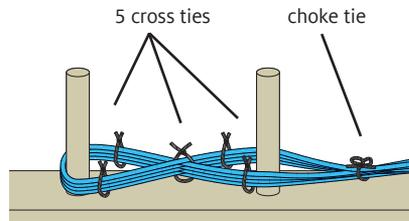

FIGURE 5: SECURE THE WARP CHAIN
**9.** Tie the cross in five places with loose cross ties, as shown in Figure 5, using contrasting scrap yarn and overhand knots. Tie very tight ties (choke ties) in a second color of scrap yarn, placing them at about 18" inch intervals down the length of the warp chain. Tie all choke ties with tight bow ties to keep the chain from tangling.